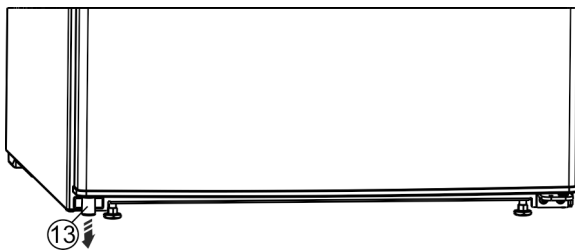

Fig. 14 *
- ▶ Remove the spacer Fig. 14 (13) from under the left-hand side of the door.*